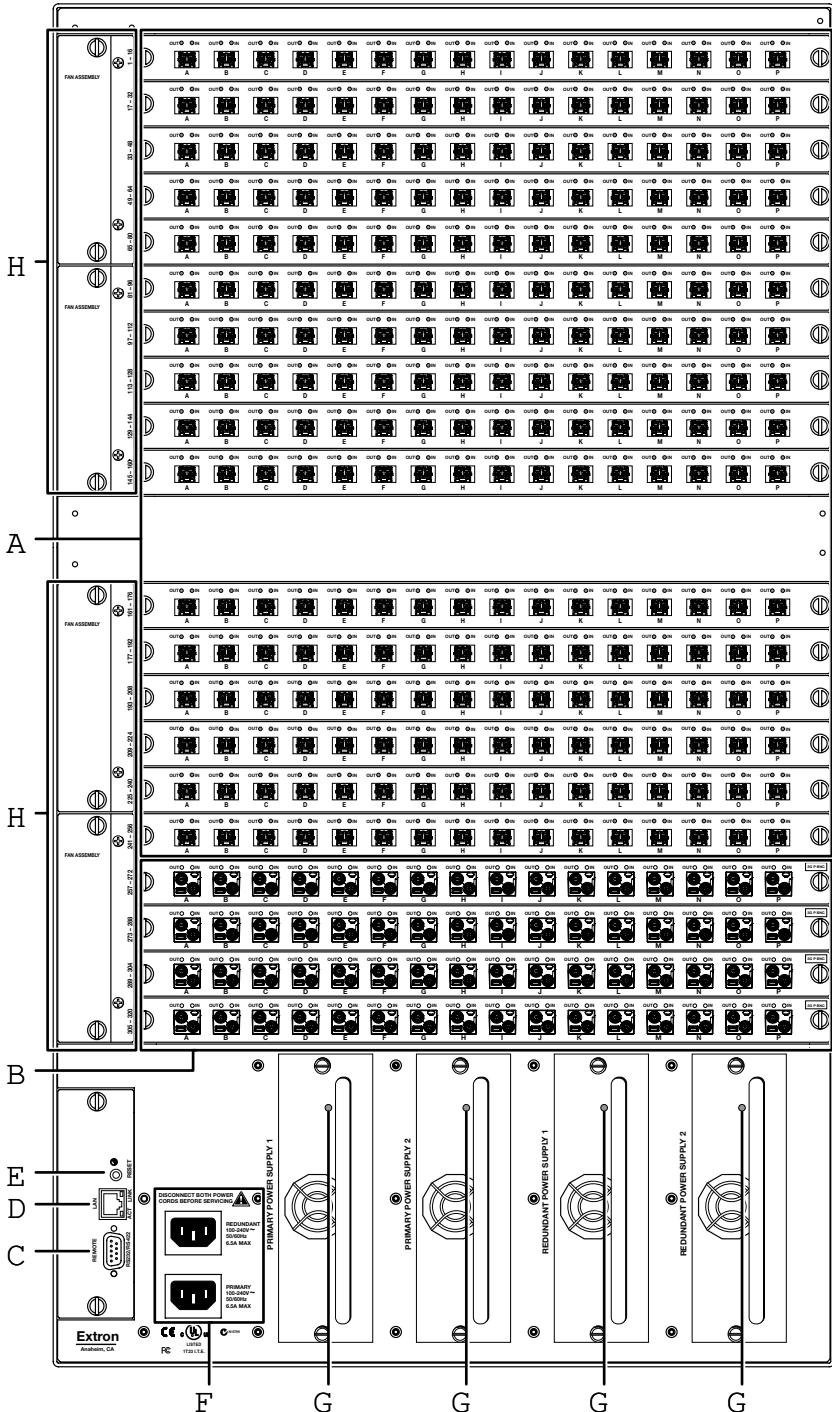
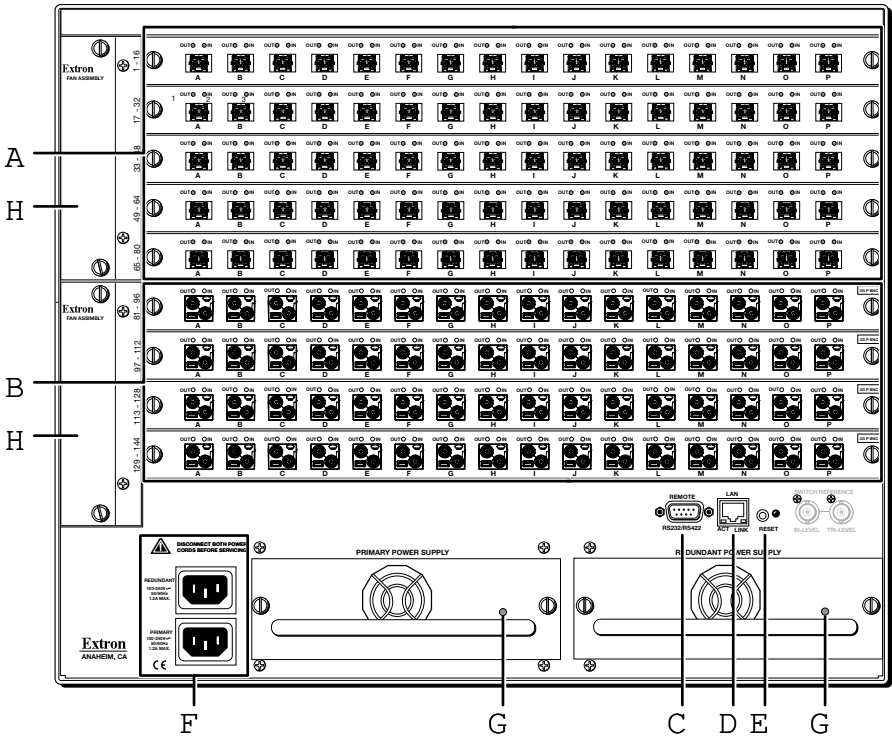

Figure 3. FOX Matrix 320x Switcher Rear Panel
Figure 4. FOX Matrix 14400 Switcher Rear Panel
- A** **Fiber optic boards with connectors and LEDs** — (see figure 3 on page 6 and figure 4 on page 7).
- F Power connectors** — Plug the switcher into two grounded AC sources (see figure 3 on page 6 and figure 4 on page 7).